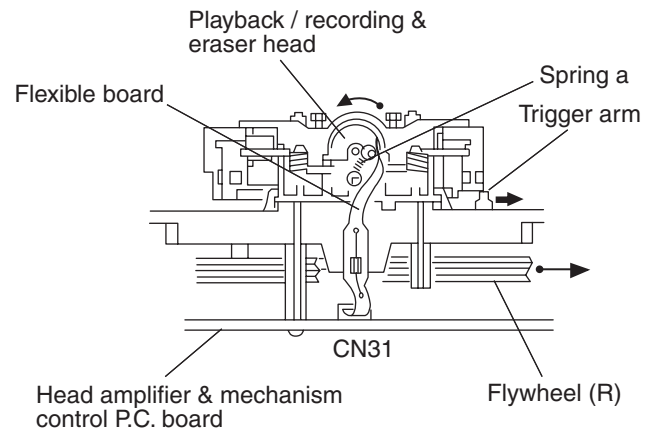
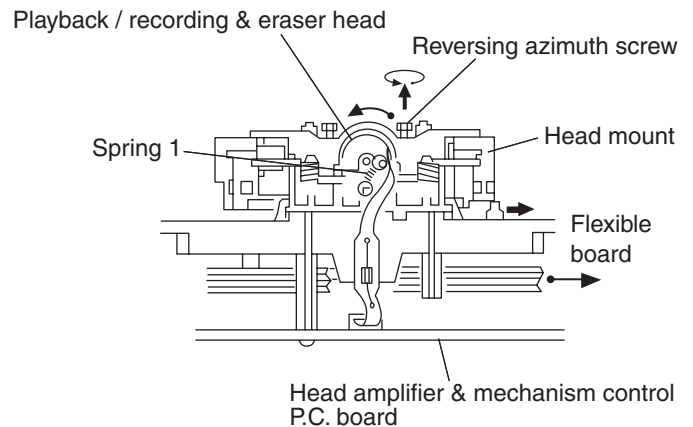

Fig. 2
Fig. 3
2. When the flywheel (R) is rotated in counterclockwise direction, the playback / recording & eraser head will be turned in counterclockwise direction from the position in Fig. 2 to that in Fig. 3.
■ Reassembling the playback / recording & eraser head (See Fig.2, 3)
1. Reassemble the playback head from the front of the head mount to the position as shown in Fig. 3.
4. Attach the flexible P.C. board to the chassis base, as shown in Fig. 3.